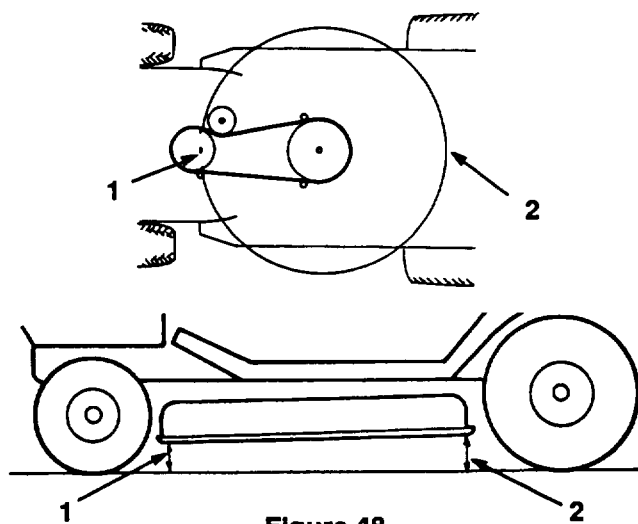

Figure 48
5. Check the front-to-rear blade slope by measuring between the bottom of the mower (front center and rear center) and the flat surface (Fig. 48). If the front of the mower is more than 5/8" (15.875 mm) lower than the rear of the mower, an adjustment is required; refer to steps 6-10.